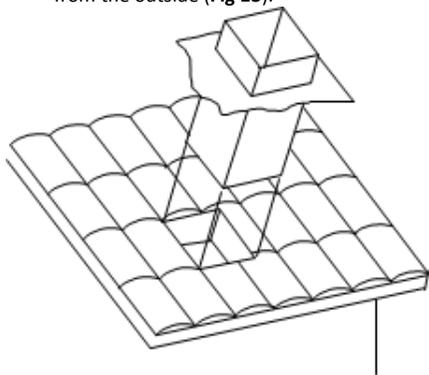

Fig 13
2. Insert the rectangular pipe into the opening from the outside (Fig 13).